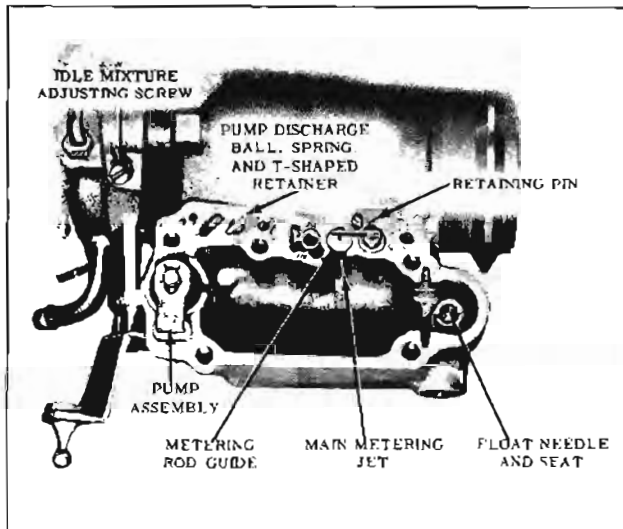

Fig. 9-127 Main Metering Jet
6. Install power piston spring into the chamber, then install power piston over the spring, while guiding metering rod through guide in the top of main metering jet well. Be sure metering rod enters orifice in the main metering jet. Retain power piston assembly in place by turning retainer wire towards power piston. Install screen into main well. (Fig. 9-127)